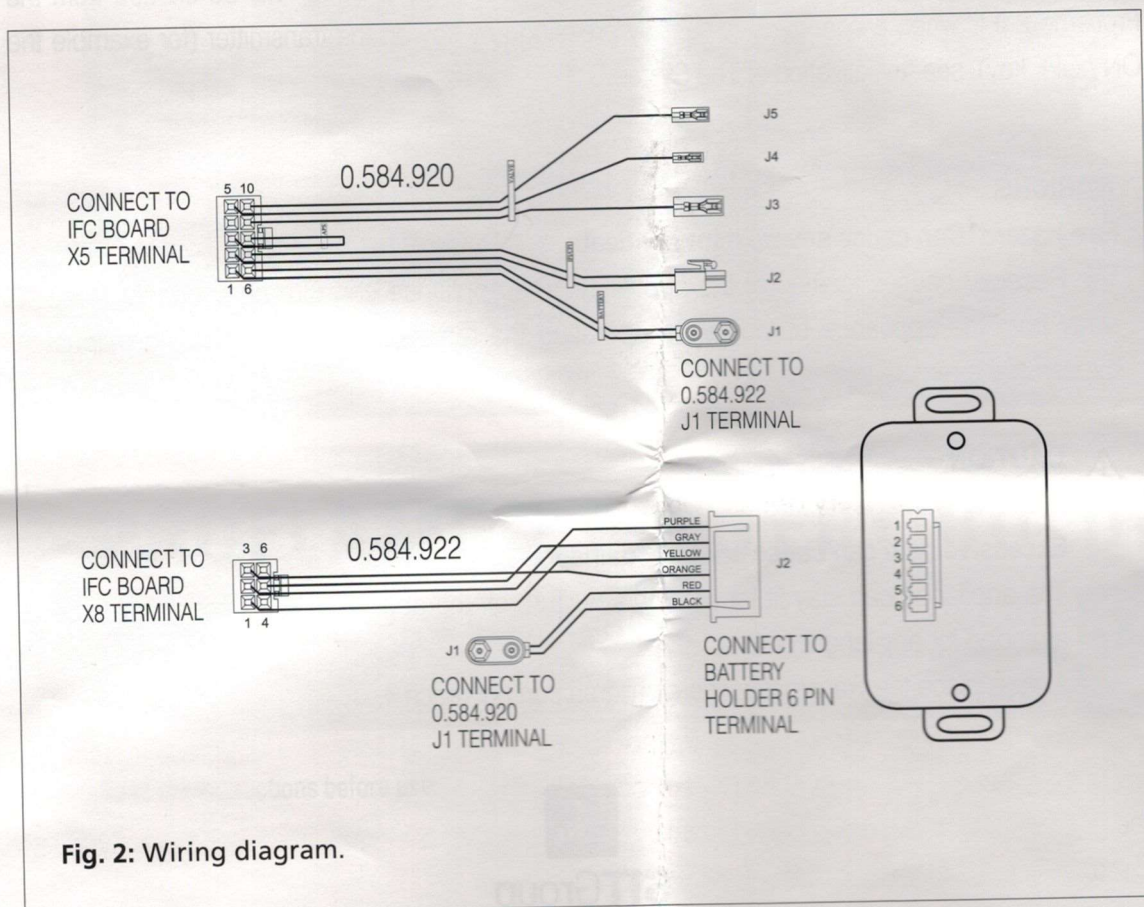

Fig. 2: Wiring diagram.
The Proflame 2 battery holder connects directly to the Proflame 2 integrated fireplace control (IFC) board through the 0.584.920 and 0.584.922 wire harness, see Fig.2.
- Check that the wiring harness connections are made correctly between the Proflame 2 Battery holder and the Proflame 2 Integrated Fireplace Control (IFC). If 0.584.920 and 0.584.922 wire harness are used, connect 0.584.920 J1 terminal to 0.584.922 J1 terminal, see Fig. 2.